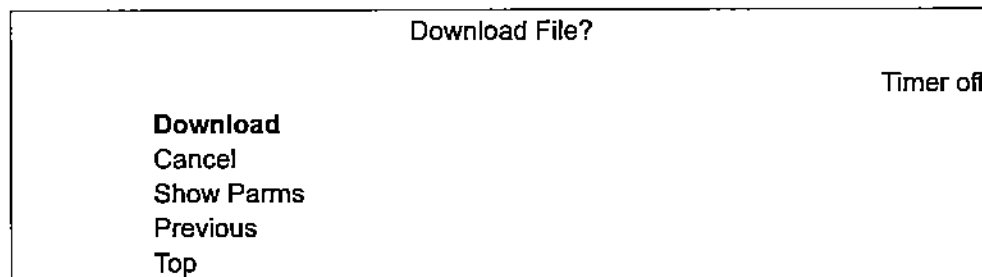

Figure F-11. Download File? Menu
6. **Initiate Download** - see Figure F-11. The *Download File?* menu is displayed. Select *Download* using the **C** button (Select/Action) to initiate the Monitor upgrade.